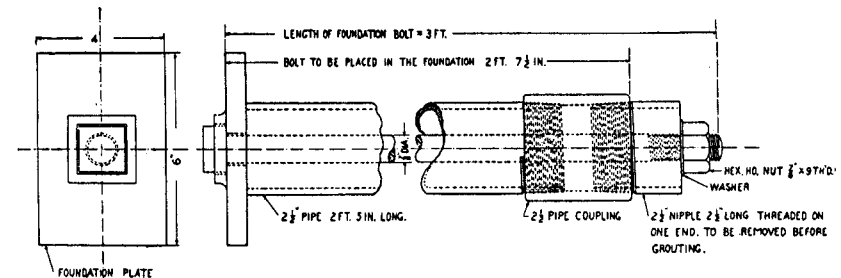

Fig. 17.—Foundation bolt for engine base.
7. A box containing foundation bolts. Foundation bolts, of type indicated in fig. 17, are shipped in advance of set proper and as early as practicable.